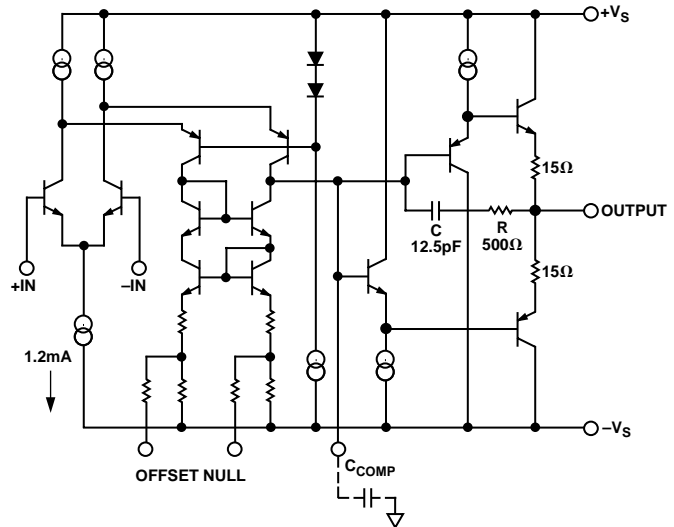

Figure 25. AD829 Simplified Schematic
The AD829 is fabricated on Analog Devices' proprietary complementary bipolar (CB) process which provides PNP and NPN transistors with similar f_T s of 600 MHz. As shown in Figure 25, the AD829 input stage consists of an NPN differential pair in which each transistor operates at 600 μ A collector current. This gives the input devices a high transconductance and hence gives the AD829 a low noise figure of 2 nV/\sqrt{Hz} @ 1 kHz.
An RC network in the output stage (Figure 25) completely removes the effect of capacitive loading when the amplifier is compensated for closed-loop gains of 10 or higher. At low frequencies, and with low capacitive loads, the gain from the compensation node to the output is very close to unity. In this case, C is bootstrapped and does not contribute to the compensation capacitance of the device. As the capacitive load is increased, a pole is formed with the output impedance of the output stage—this reduces the gain, and subsequently, C is incompletely bootstrapped. Therefore, some fraction of C contributes to the compensation capacitance, and the unity gain bandwidth falls. As the load capacitance is further increased, the bandwidth continues to fall, and the amplifier remains stable.